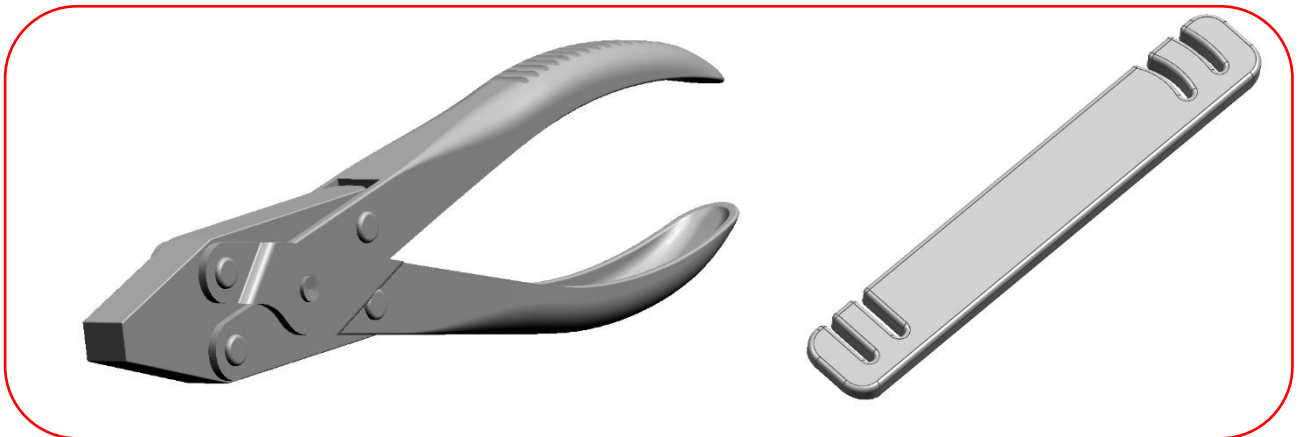

Figure 6
17. Two styles of plate bending instruments (**Figure 6**) are provided to optionally contour the plates to fit the bone. Plate bending pliers feature flat jaws to grip various positions on the plates. Plate bending irons feature various flat and curved slots to fit the plates in multiple positions.